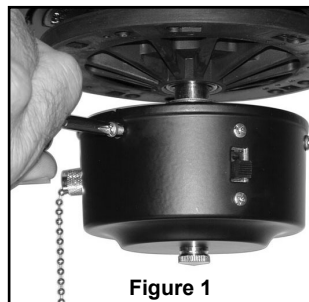

Figure 1
1. Remove the switch housing from the fan by unscrewing the housing screws and unplugging the connector (Figures 1 & 2).